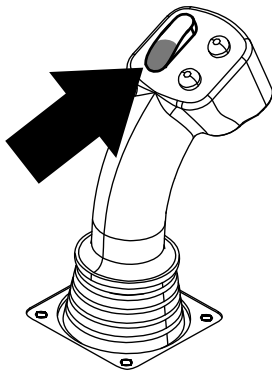
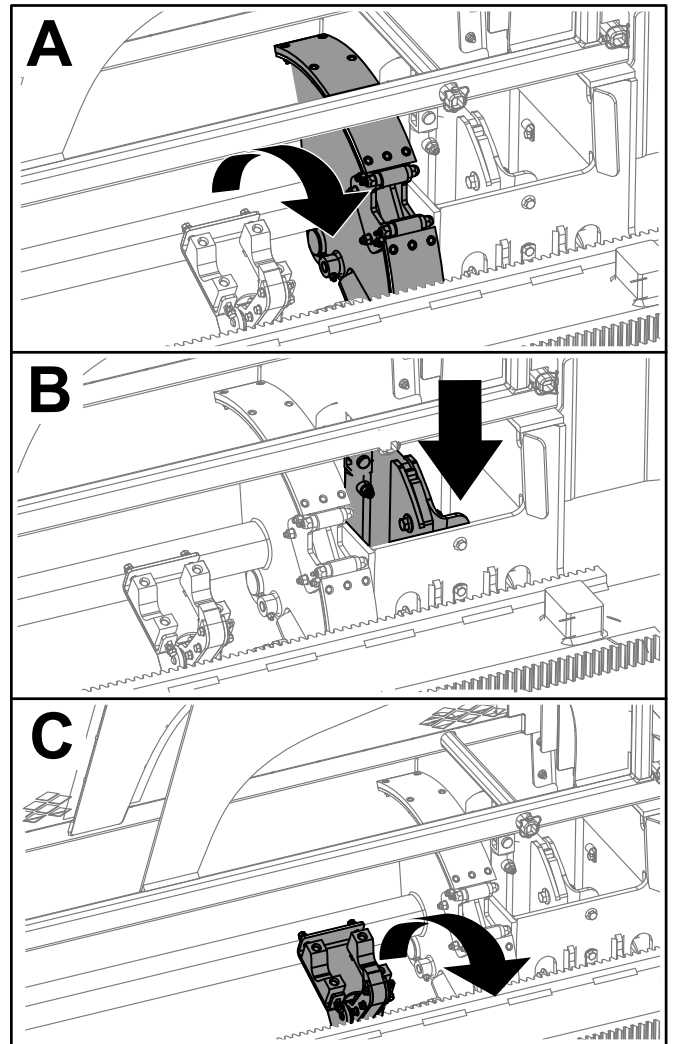

Figure 9
Figure 10
3. Hold the lower section of the rocker switch (Figure 9) until the following 3 things happen (Figure 10):